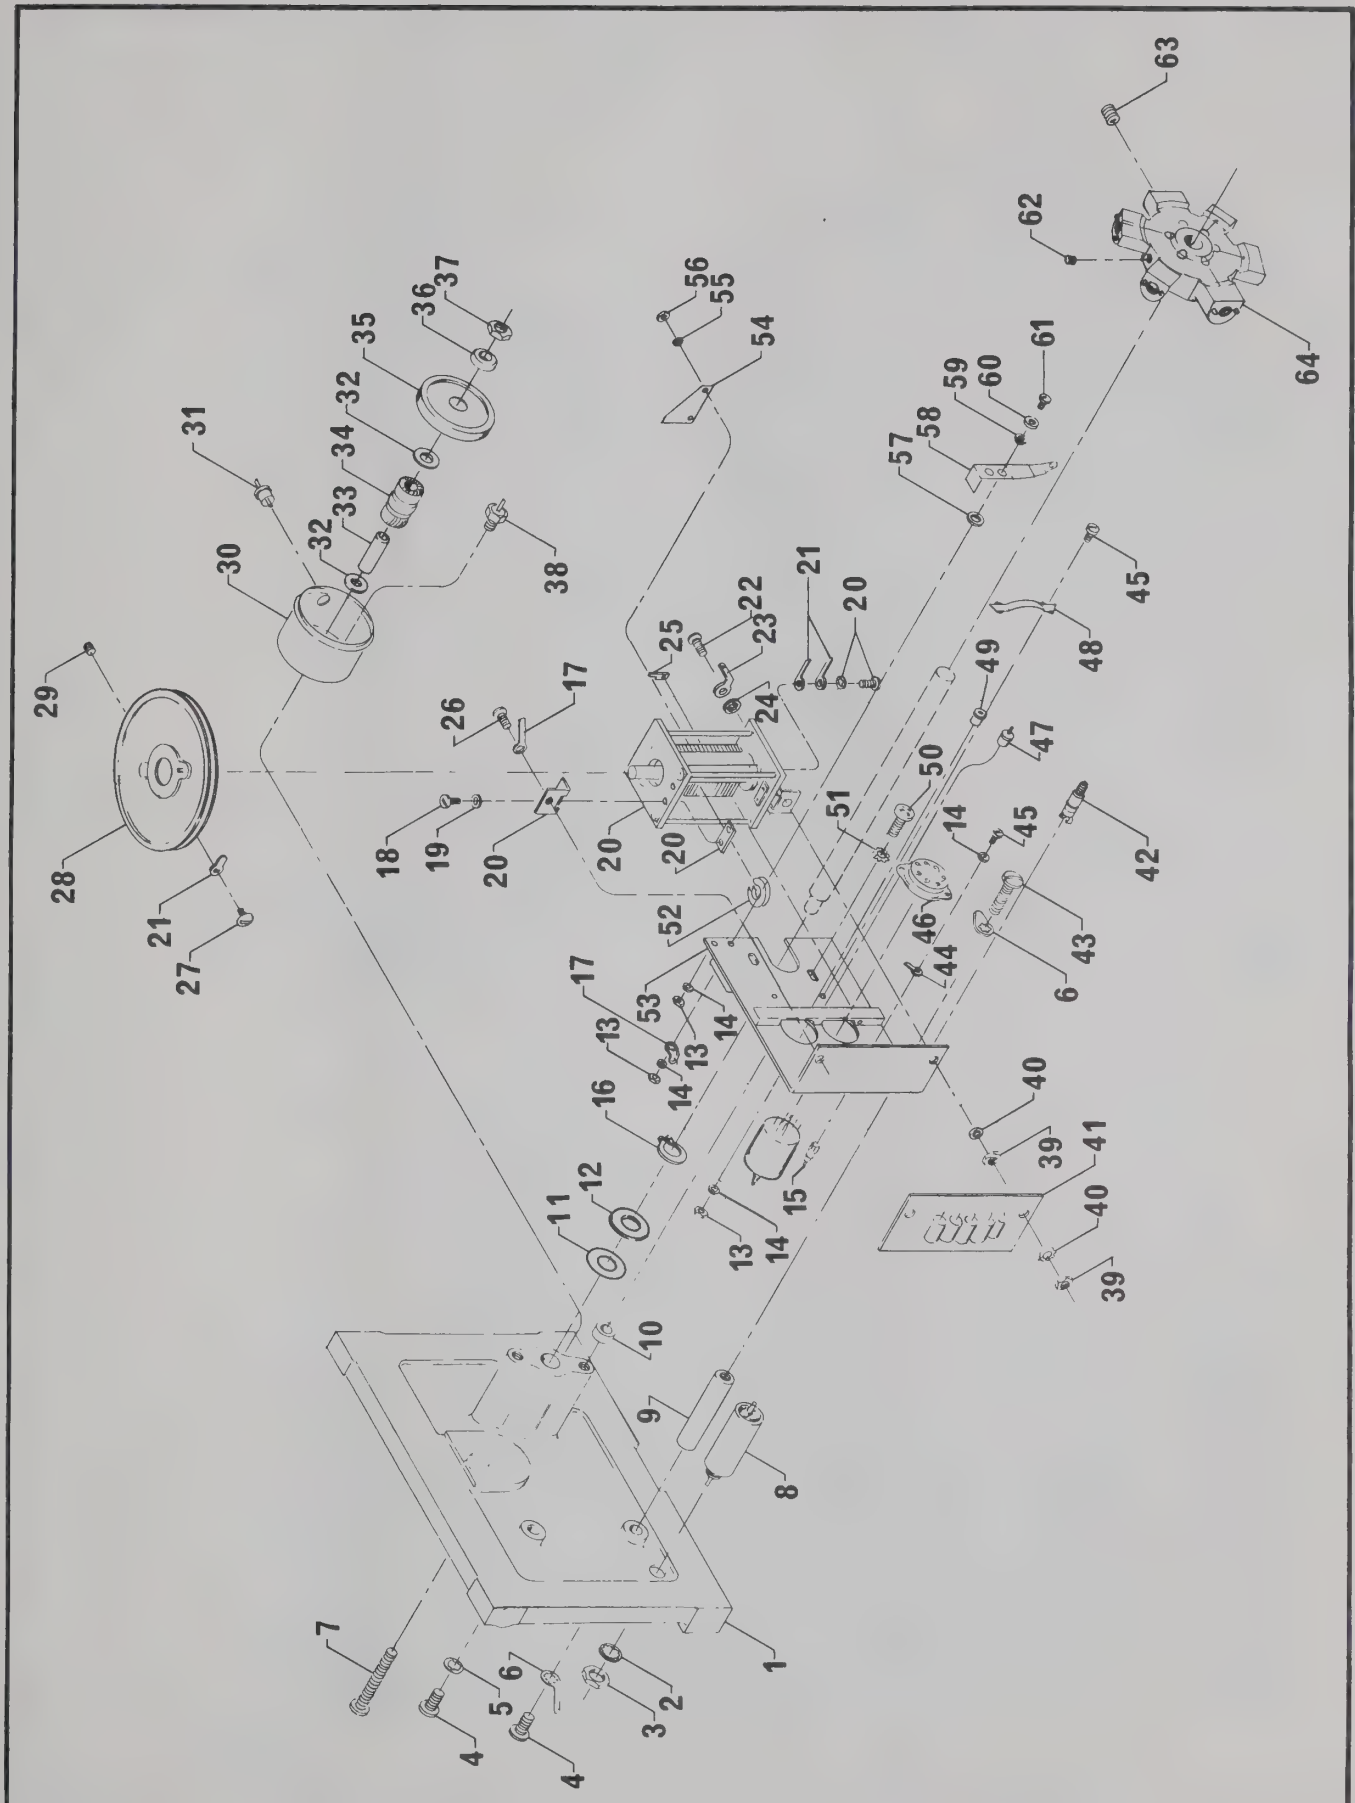

Figure 6-4. -hp- 3200B VHF Oscillator, RF Oscillator Compartment
5. A fabricated Grid Switch Insulator was used. (Item 25 of Figure 6-4). If replacement is necessary use Teflon sleeving.